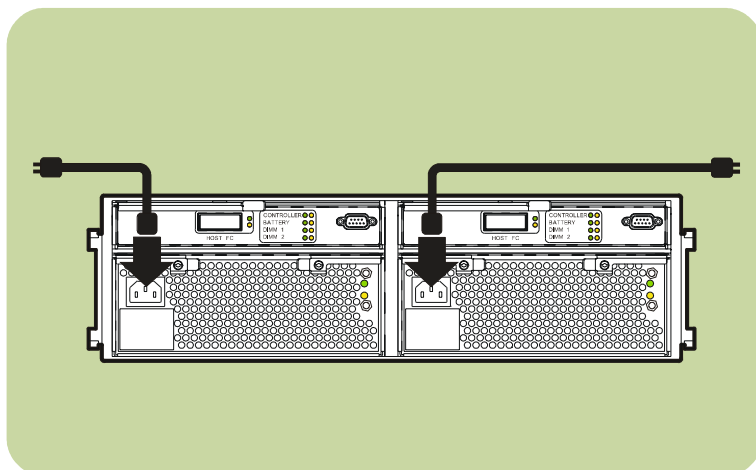

Fig. 38. Connecting power cords for high availability
2. Connect one end of each power cord to the array ac power receptacle (see Fig. 38), and the other end to one of these ac power outlets: